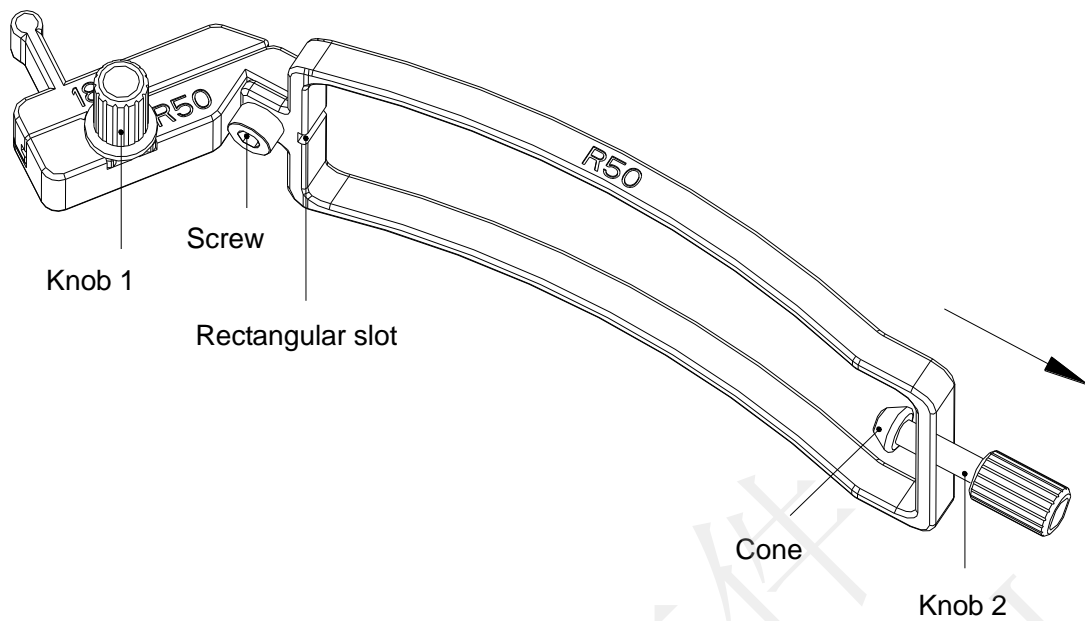

Figure 6-28 Structure of Needle Guide Bracket Kit
Step 1: Take needle guide bracket kit out from the package and check it carefully for any damage. Identity the appropriate needle guide bracket kit (for the unique matching needle guide bracket kit of each probe, see Table 3-2 Needle Guide Bracket Kits of the user manual). The structure of needle guide bracket kit is shown in Figure 6-28.
Step 2: Check if the screw and knob 1 come loose. If so, fasten the screw with an inner hexagon spanner, and fix the knob 1 with fingers; turn the knob 2 counterclockwise until it stops (with normal force), as the arrow direction shown in Figure 6-28.